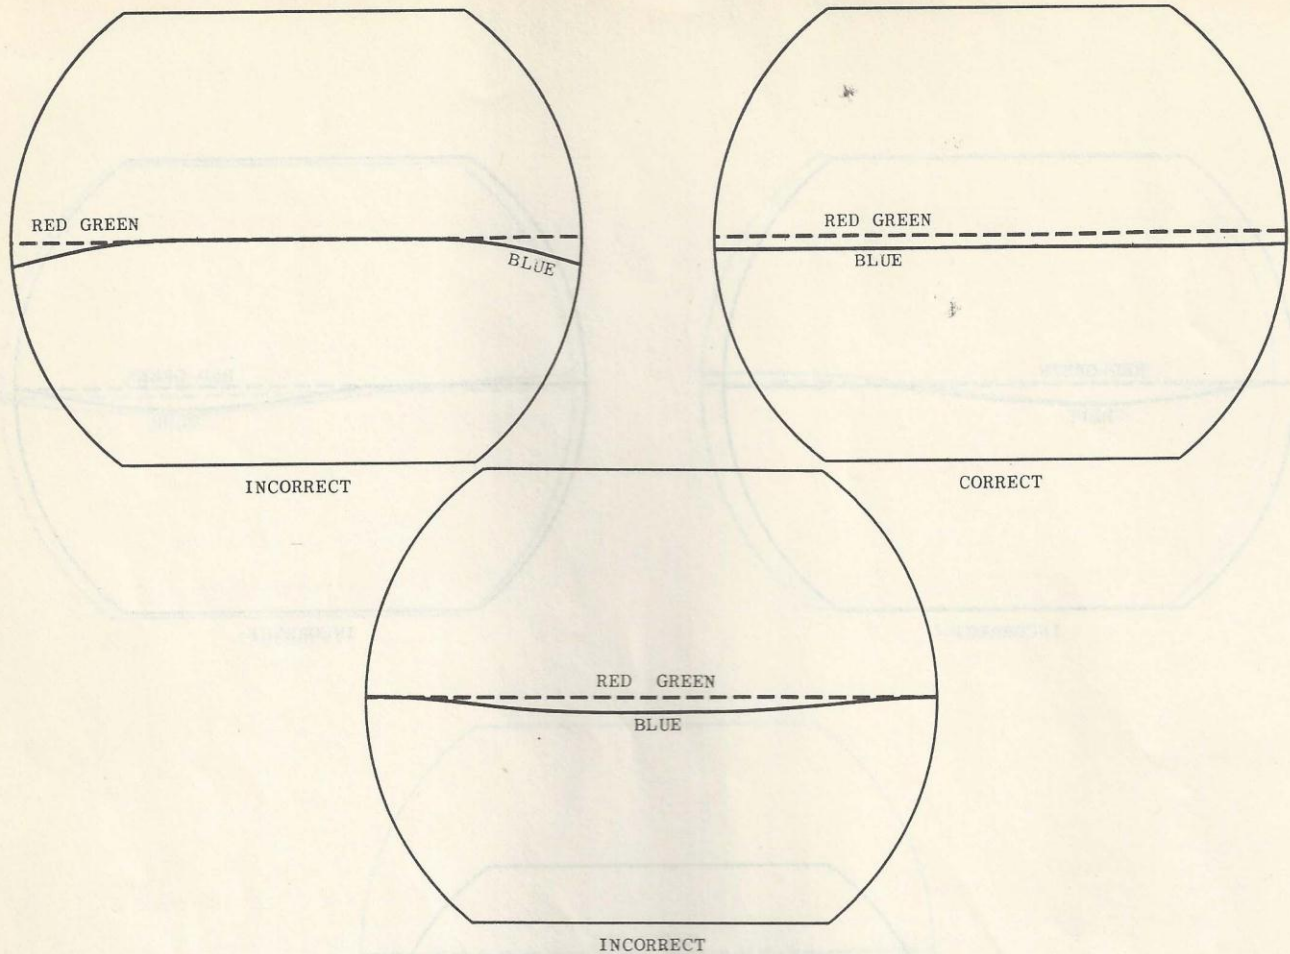

FIGURE 14. BLUE HORIZONTAL AMPLITUDE #1 ADJUSTMENT
6. Turn the BLUE HORIZONTAL AMPLITUDE #1 control (convergence chassis) counterclockwise and adjust until the center, horizontal, blue line is parallel to the red and green lines. Re-converge the pattern at the center of the screen by use of the BEAM POSITIONING and BLUE LATERAL CORRECTOR magnets. Re-check the setting of the BLUE HORIZONTAL AMPLITUDE #1 and BLUE PHASE #1 controls for best convergence of the blue line with respect to the red and green lines across the center of the screen (see Figure 14).